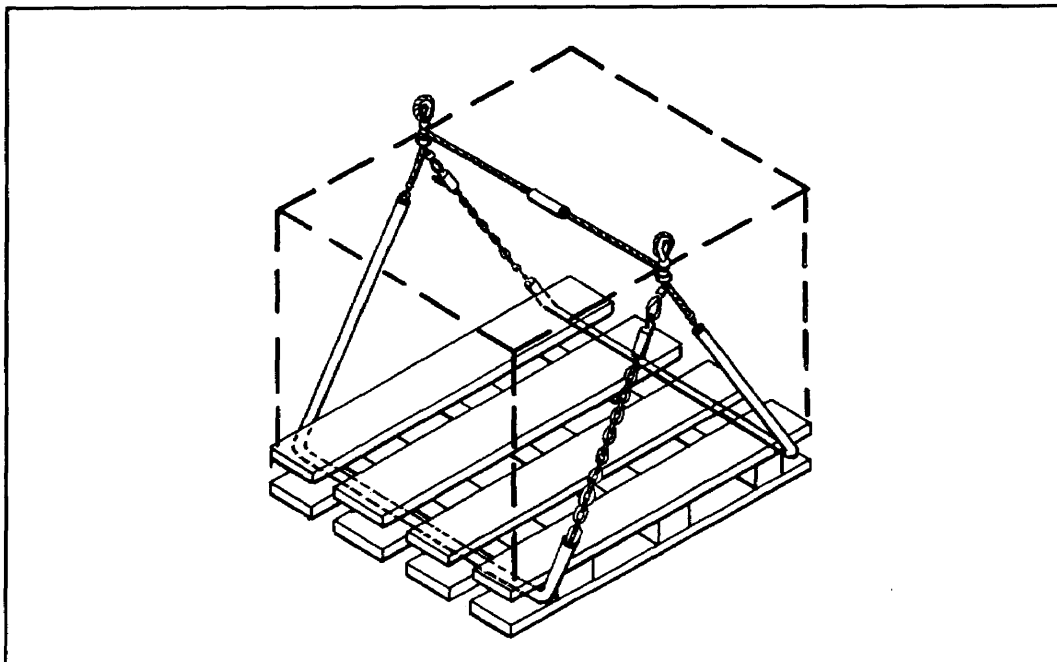

Figure I-3. Pallet sling.
b. **Pallets and Pallet Slings.** One of the most efficient ways to deliver heavy or bulky supplies is by loading them securely to standard 40- x 48-inch pallets. Ammunition is often delivered from rear storage areas on pallets. Table I-3 shows examples of common mortar platoon ammunition loaded onto standard pallets. By using a pallet sling, palletized cargo can be moved directly to the mortar platoon by helicopter without having to reconfigure the load. The pallet sling used by the Army has a 4,000-pound carrying capacity and carries a standard 40- by 48-inch pallet (Figure I-3). The two models of the pallet sling are the MK 100 and MK 86. The major difference between the two models is that cargo on the MK 100 can be stacked from 48 to 70 inches; the MK 86 can be stacked from 29 to 40 inches (Figure I-3). Table I-4 shows the difference between the two models of pallet slings.